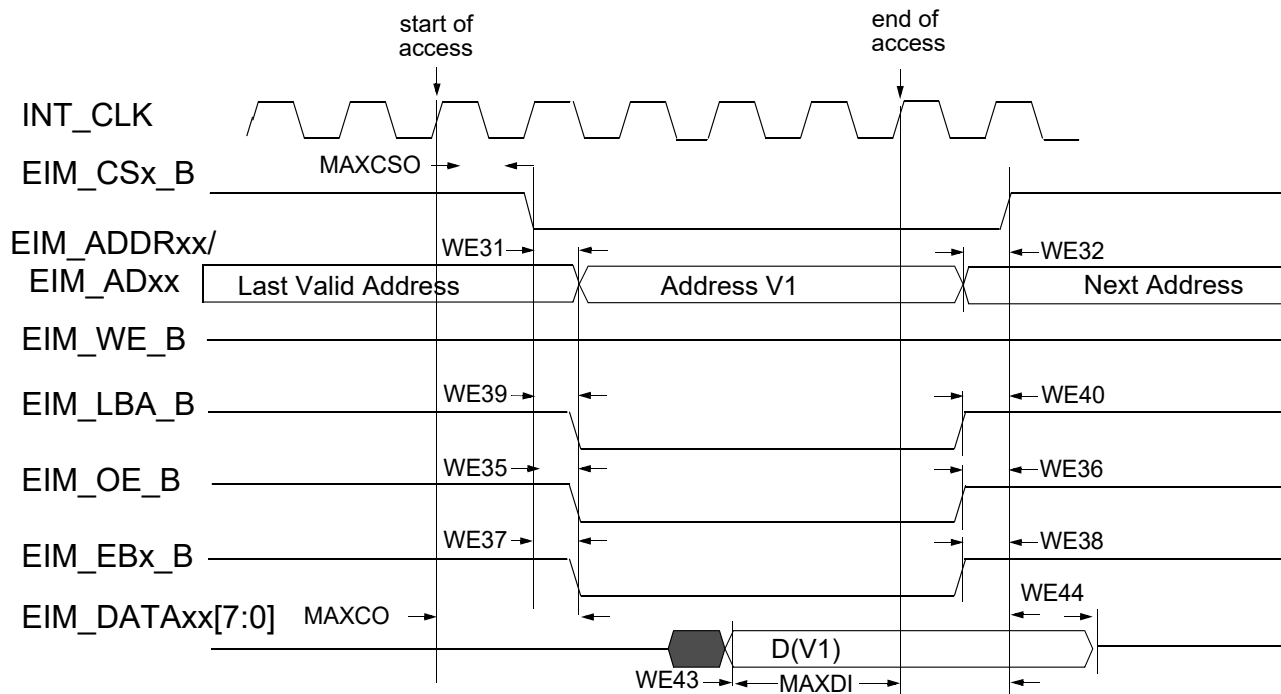
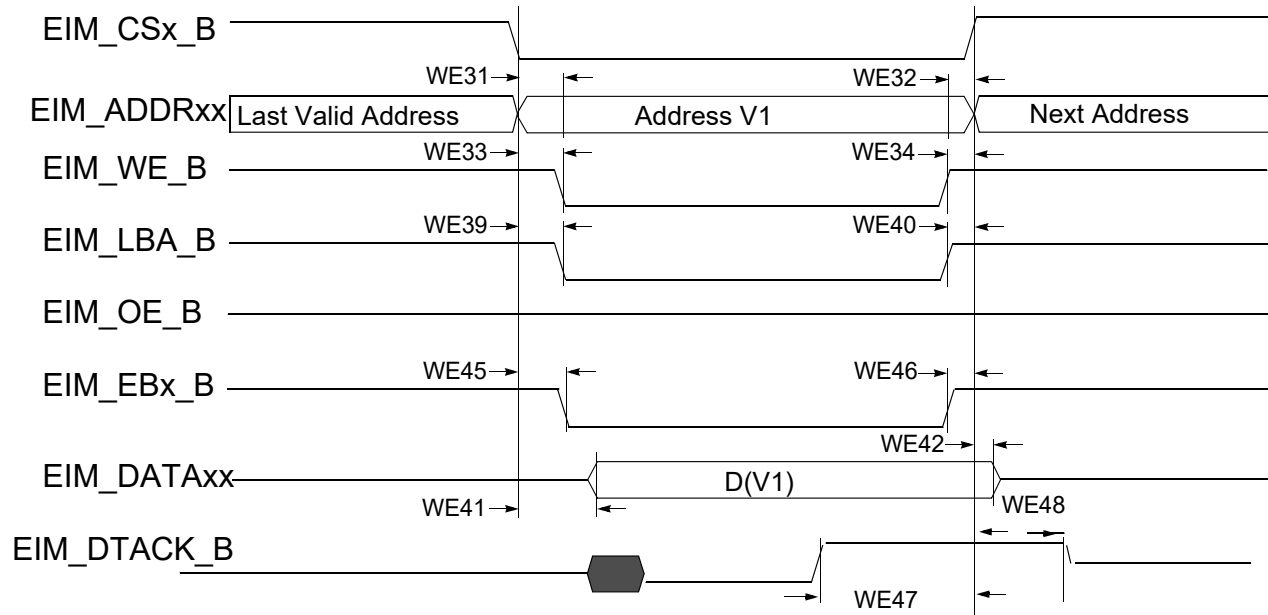

Figure 16. Asynchronous Memory Read Access (RWSC = 5)
Figure 21. DTACK Mode Write Access (DAP=0)
Figure 16 through Figure 21, and Table 45 help you determine timing parameters relative to the chip select (CS) state for asynchronous and DTACK EIM accesses with corresponding EIM bit fields and the timing parameters mentioned above.
Asynchronous read and write access length in cycles may vary from what is shown in Figure 16 through Figure 19 as RWSC, OEN and CSN is configured differently. See the *ii.MX 6SoloX Applications Processor Reference Manual (IMX6SXR)* for the EIM programming model.